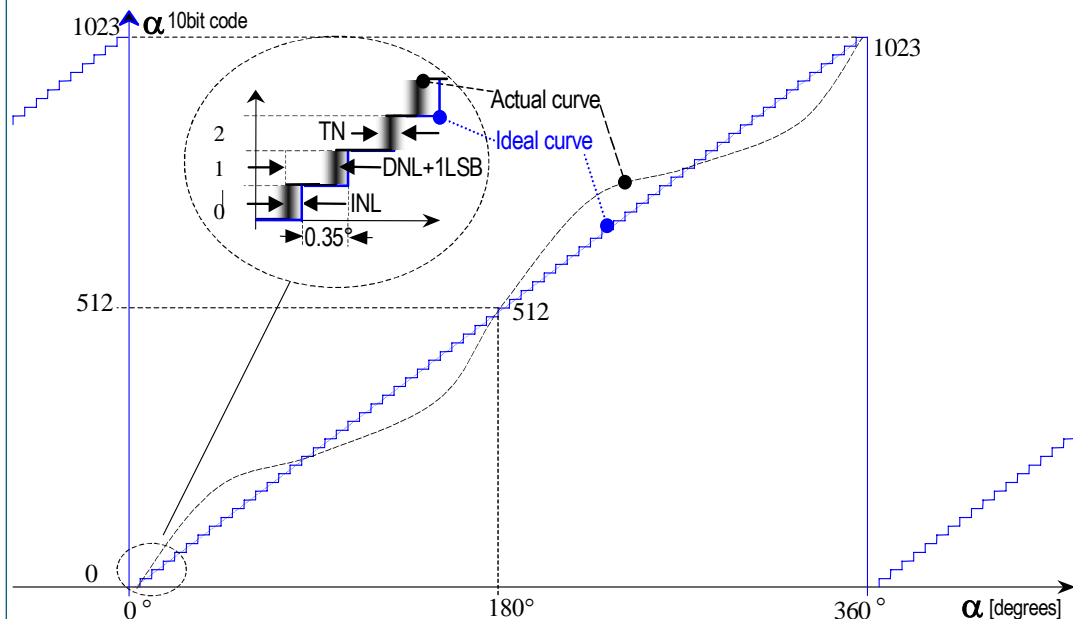

Figure 25: Integral and differential non-linearity example (exaggerated curve)
| 1.2 | Nov. 24, 2004 | update block diagram (Figure 3) update definition of Parity bit add description of incremental power-up lock option (5.2.1) add specification of external components during programming (9) add Figure 15: OTP programming connection diagram add description of analog readback mode (9.6) update description of alignment mode (0) replace Figure 23(magnet placement) add simulation model (1) add timing diagram for Daisy Chain mode (Figure 6) add description of diagnostic features (0) add description of angular errors (15) update max. soldering temperature according to JEDEC-Std. (16.1) update maximum current consumption (16.2) remove option for 1bit Hysteresis (0) add nonlinearity parameter for centered magnet over temperature (0) update power-up time (0) modify Figure 25 update PWM timing tolerance over temperature (16.6) update device number in ordering information (18) |